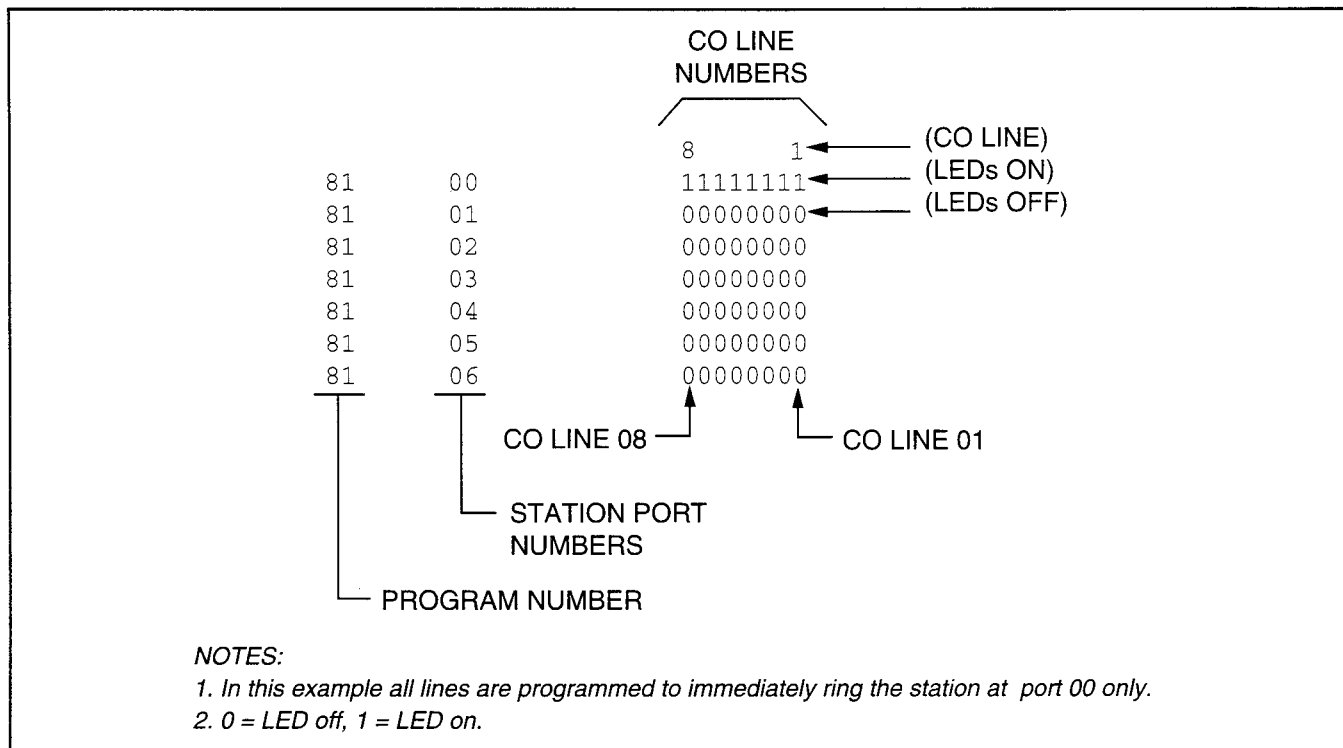

FIGURE 7-21
- Allows system program data to be printed via the SMDR port (refer to Figure 7-21 for an example printout).